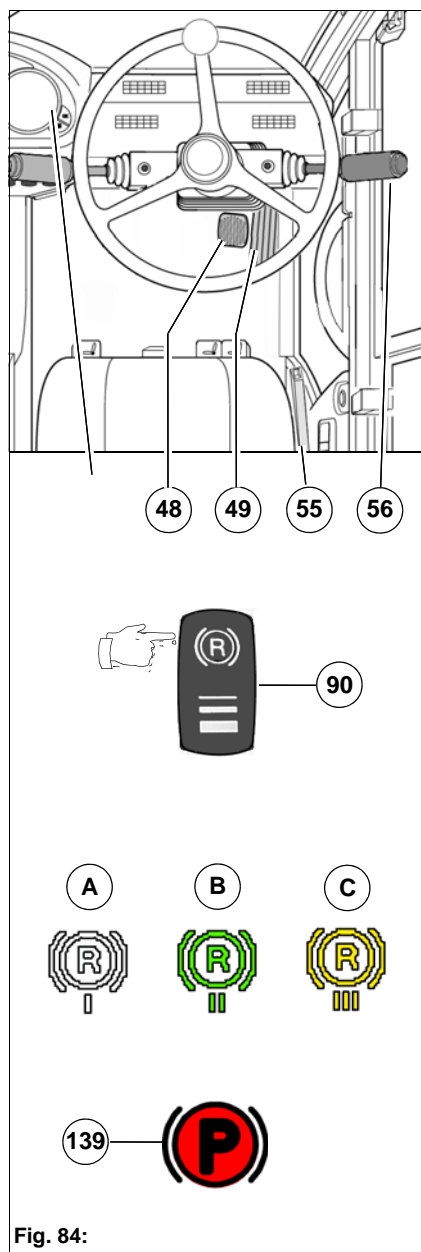

Fig. 84:
- Stage I: Symbol **Fig. 84-A**
- Stage II: Symbol **Fig. 84-B**
- Stage III: Symbol **Fig. 84-C**